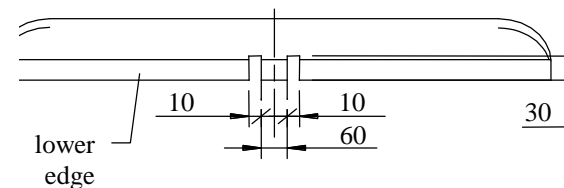

Fig. 2
4. In lower part of bumper cut out small fragments, see figure 2.